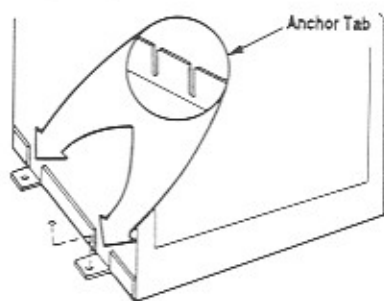

Figure 8
Step 4. Fireplace may be anchored to floor. Bend down four (4) anchor tabs located at the base of the fireplace and secure to the floor by nailing with 8d nails (Figure 8).